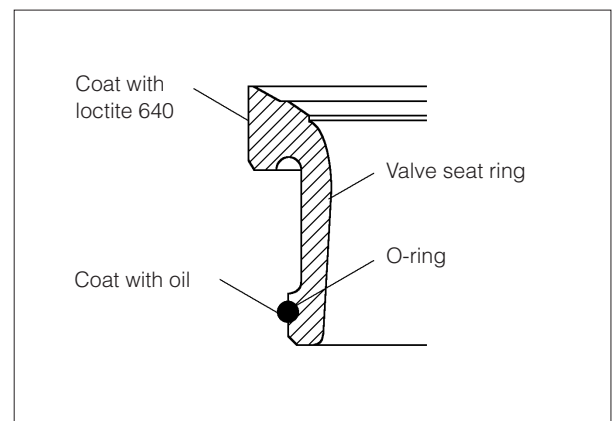

Fig 4.
4) Place the o-ring on the valve seat ring and coat with oil/loctite as shown in fig 4, just before positioning it in the bore.